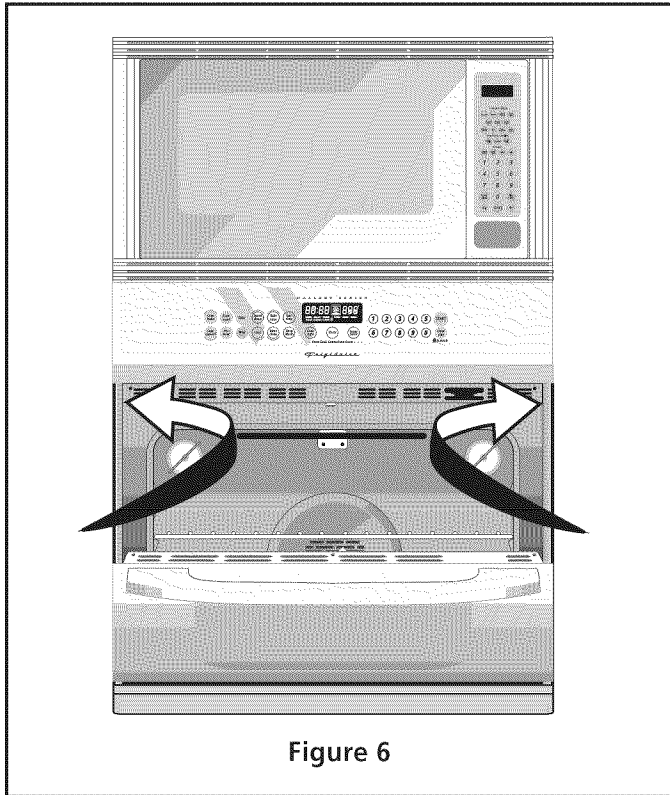

Figure 6
A. The mounting holes in the side trims may be used as a template to locate the appliance mounting screw holes (see figure 6).